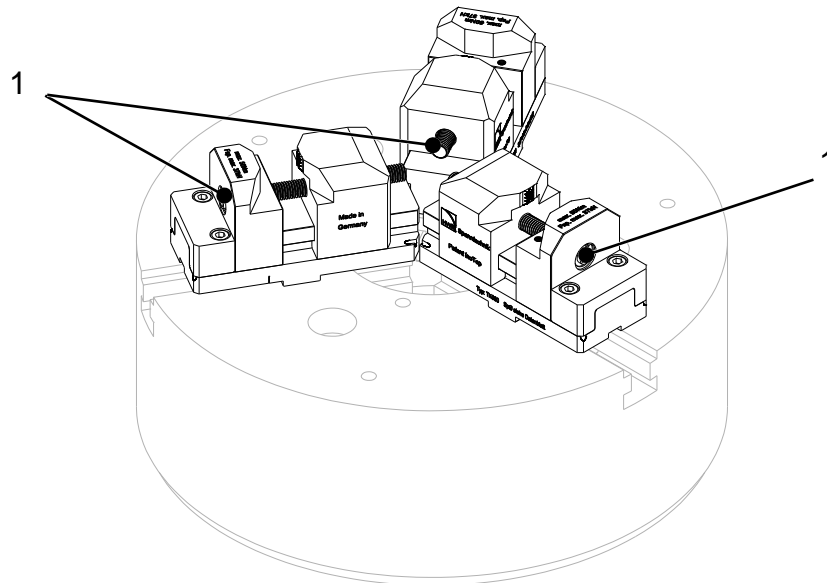

Fig. 4-1: Clamping the workpiece
- Step 1** Open the clamping unit by turning the spindles (1, see Fig. 4-1).
- Step 4** Clamp the workpiece using a torque wrench by uniform tightening of the spindles (1, see Fig. 4-1).